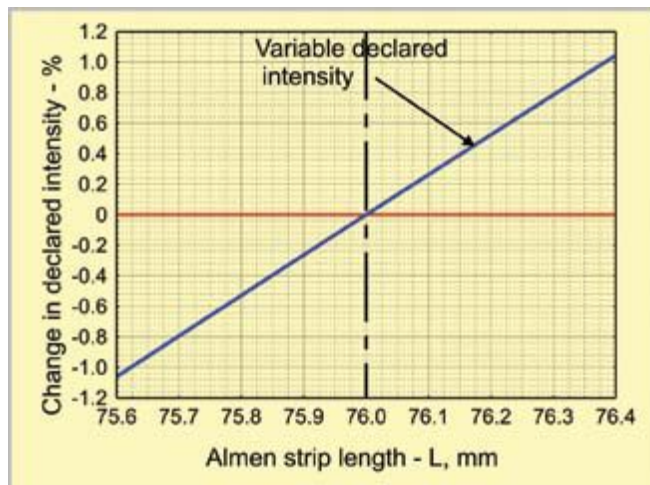

Fig.7. Effect of Almen strip length variation on declared peening intensity.
Equation (7) can be used to estimate the effects of allowed variations in strip length or width (as well as other factors as discussed later in this article). Using the same method as that used for estimating the effect of strip thickness, we get the variation shown in fig.7 (page 32).